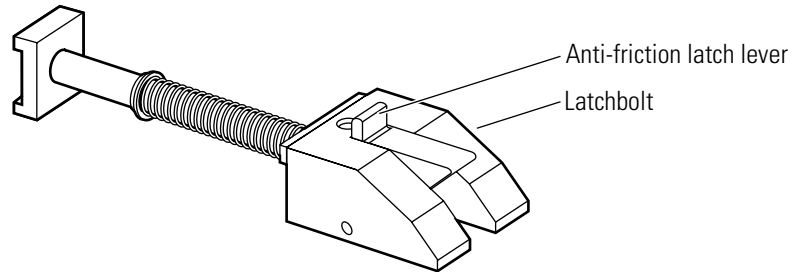

Figure 6.7 Latchbolt with anti-friction latch lever in position
3. Turn over the latchbolt and rotate the anti-friction latch lever into position. See Figure 6.7. Place the latchbolt in the case.